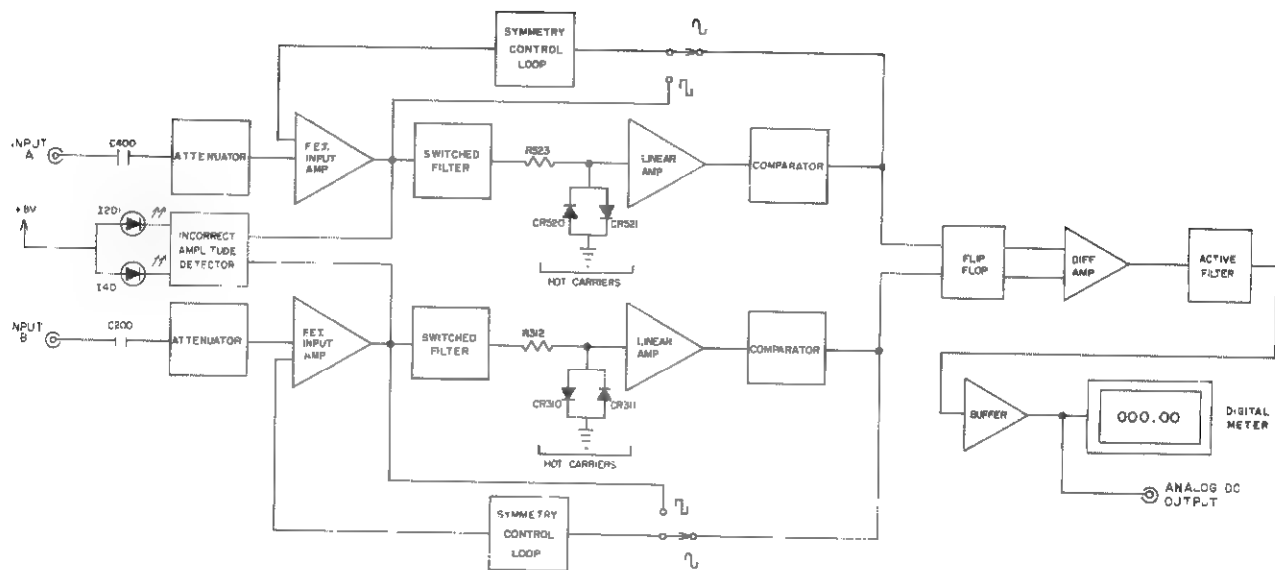

Figure 6. Simplified Block Diagram
A simplified block diagram of the phasemeter circuit is shown in Figure 6. A reference signal is applied to the A input and the signal to be measured is applied to the B input. Each input signal goes through a coupling capacitor, an attenuator, a high impedance (FET) amplifier for isolation and a switched filter that reduces any high frequency signals or noise. Each signal is then fed to a high speed comparator. The comparator detects the point where the input signal crosses the zero axis, and produces a square wave. The output of each comparator is then used to trigger a bi-stable flip flop. The output of the flip flop is a square wave, with a duty cycle that is proportional to the time between the two trigger inputs. The DC average of the accurately clamped flip-flop output is displayed by a digital meter, and corresponds to the phase angle, in degrees, between the two input signals.
4.2 ATTENUATOR AND FET INPUT AMPLIFIER (see figure 6)